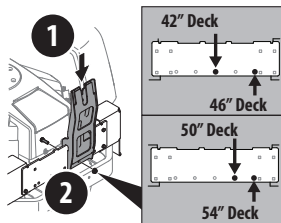

Figure 4
1. Install the vertical support bracket onto the mounting assembly on the tractor by hooking it over the mounting assembly as shown in Figure 4.
2. Secure the vertical support bracket (1) to the mounting assembly in the mounting hole available for the deck size this bagger is being installed on (2). See Figure 4 for the proper mounting location. Use a hex bolt (710-0376) and flange lock nut (712-04063) from hardware pack 689-02200.